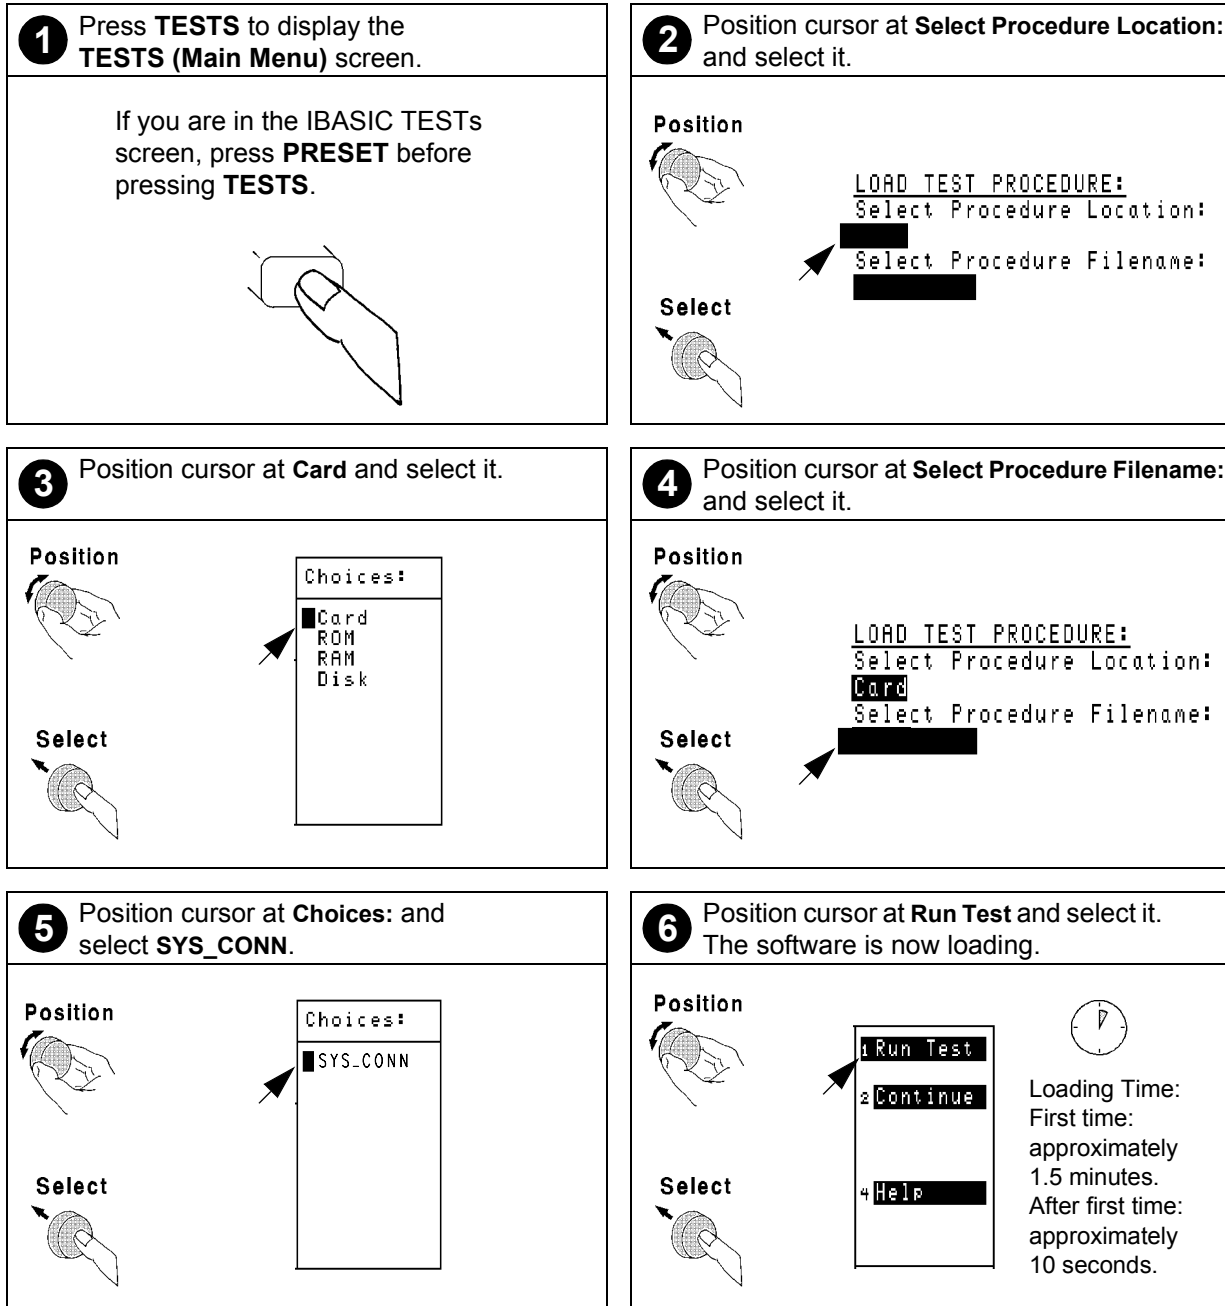

Figure 22
- 5 To load and run the software, follow the steps of figure 22.